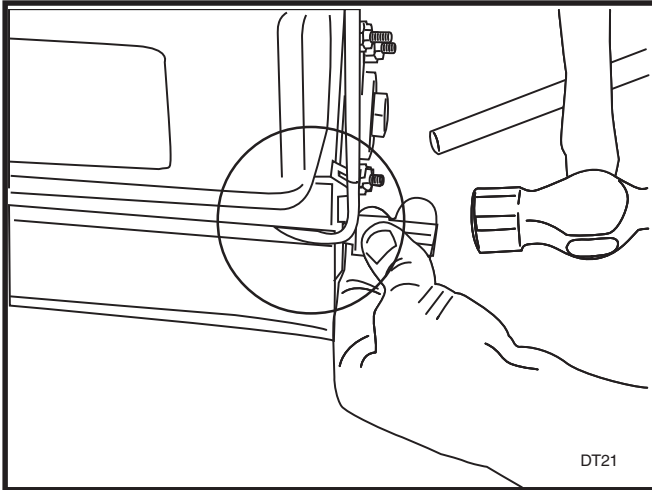

**FIGURE 2**
9. Place seed box on unit, replace bearing with eccentric collar to the outside. The screws that attach the seedbox to the frame **MUST** have washers inside the seedbox on the screws. **DO NOT** overtighten and deform the plastic, snug-up **ONLY**. See Figure 2.